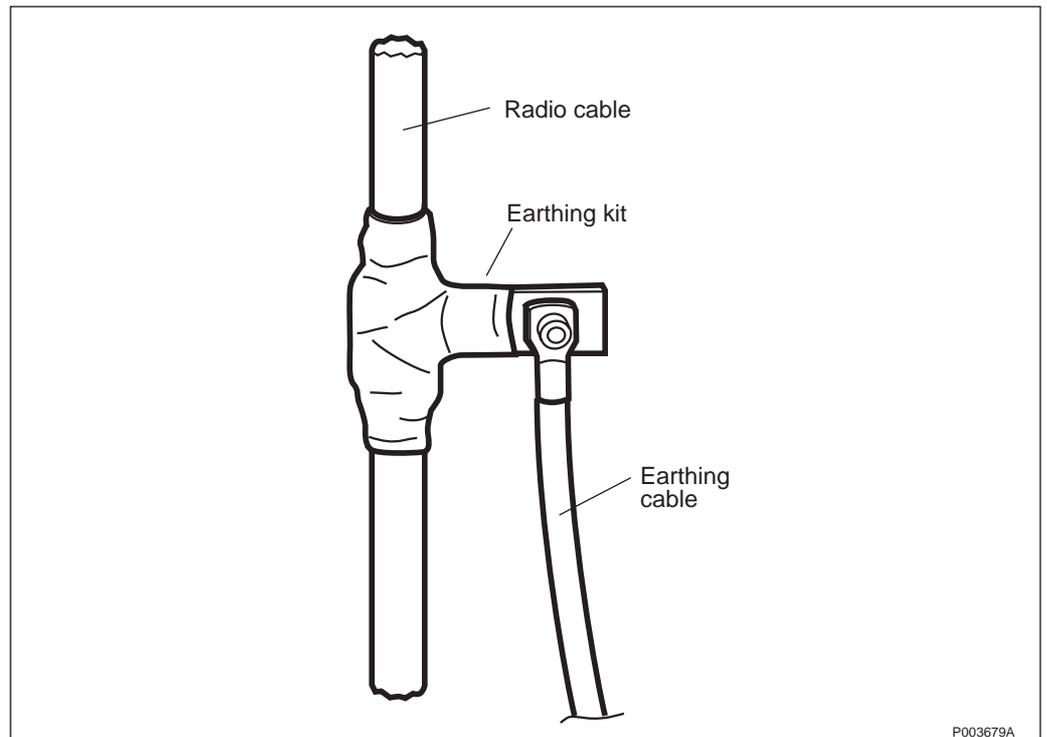

Figure 259 Earthing set SXK 111 528/1
**Note:** For the DC/Data cable: Use also the sealing set NTM 201 246 to assure protection from moisture. The tapes shall be wrapped in a similar way that is shown in *Figure 259 on page 218*.